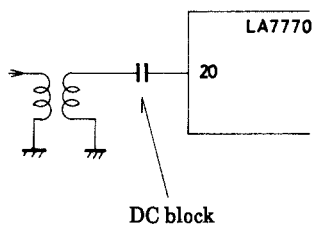

Fig. 2
- Since an internal bias is applied to the input pin (pin 20), be sure to provide a DC blocking capacitor as shown in Fig. 2.